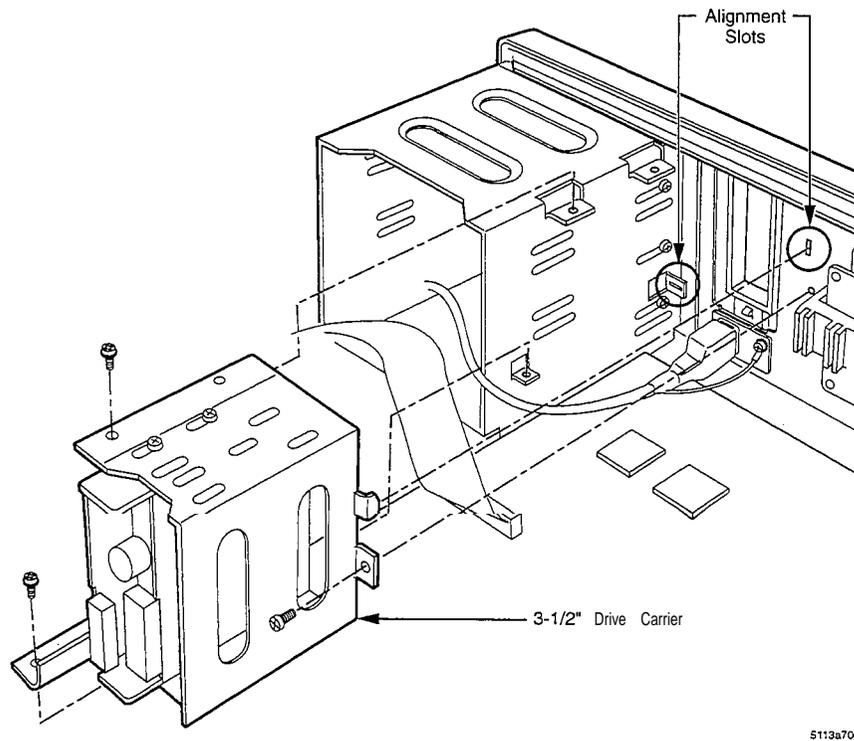

Figure 1 Remove the Drive Carrier
9. Slide the carrier toward the back of the server, freeing the left front tab from the slot on the side of the adjacent drive bay. Make sure all the cabling is clear, and lift the carrier up and out of the server. See Figure 1 for details.